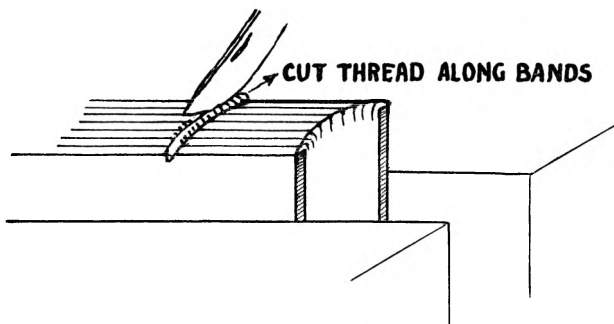

Fig. 34
13. Scrape the back of the book with a folder to remove as much as possible of the soft glue and lining. Using a very sharp knife cut the threads on the cords or tapes by cutting along the length of the bands, fig. 34, then remove